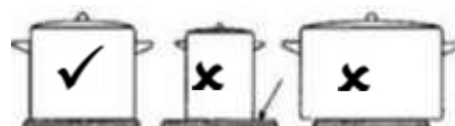

Fig. 14
- Use pans that are the same size or slightly larger than the hotplate (Fig. 14). Smaller pans waste energy and oversized pans (>50mm over hang) can overheat the hob and cause cracks and damage.